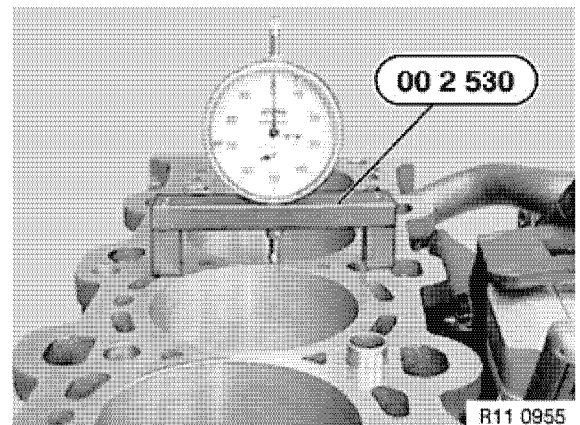

Figure 5-33
- Place a dial indicator with measuring fixture OEM No. 00 2 530 on clean cylinder block (**Figure 5-33**). Set the dial to zero.